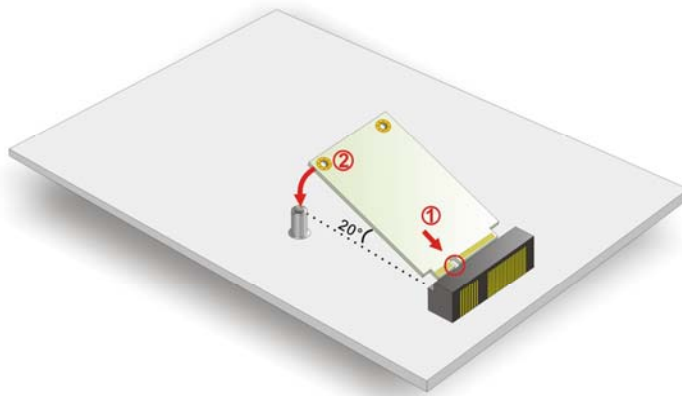

Figure 4-9: Insert the mSATA Card into the Socket at an Angle
Step 3: Insert into the socket at an angle. Line up the notch on the card with the notch on the connector. Slide the mSATA card into the socket at an angle of about 20° (**Figure 4-9**).